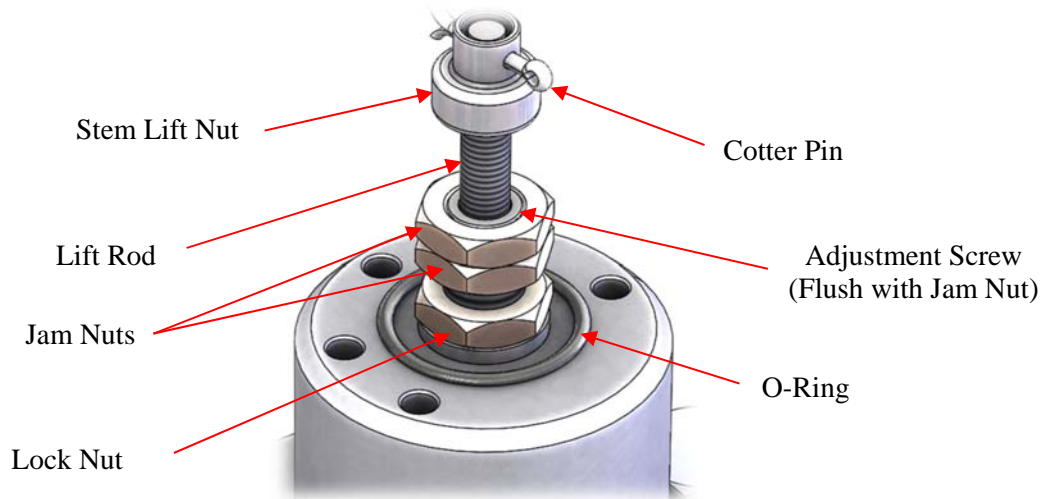

Figure 41: Removed Lift Lever Cap
5. Remove and set aside the cap. There will be an o-ring under the cap. Remove and discard this o-ring. See Figure 41.
6. Bend straight and pull out the cotter pin. Figure 41. Set it aside.
7. Unscrew the stem lift nut from the lift rod. See Figure 41.